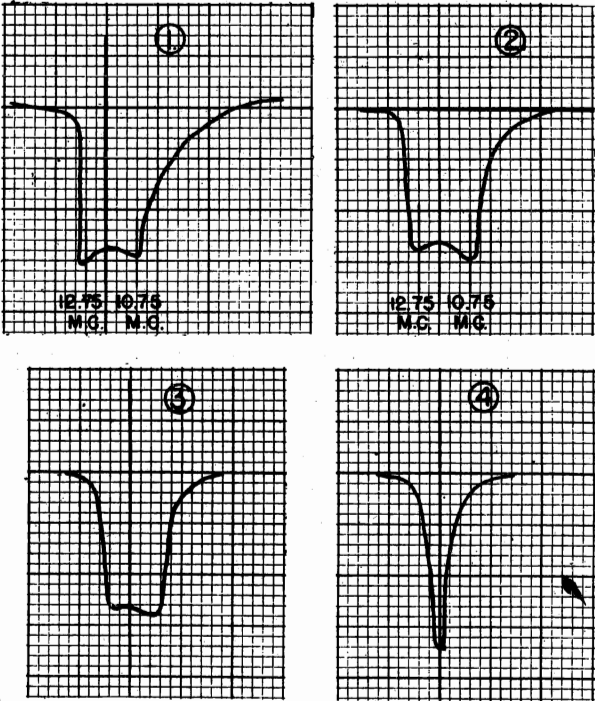

Fig. 6. Television Alignment Curves
| 2. 7.5-15 MC Sweep | Control grid of 1853 (2nd video I.F.) | | Connect output tap of video I.F. Sweep oscillator to control grid of 1853 (2nd video I.F.) See Fig. 1 or 4, arrow (2). Connect ground lead to chassis. Turn contrast control (R-108) to about half of maximum or to a point which gives satisfactory vertical deflection without overloading. Set horizontal centering and gain controls on oscilloscope to give suitable horizontal deflection. Adjust sweep phase to give curve similar to Fig. 6, curve 1. |
| 5. 7.5-15 MC Sweep | Same as in No. 2 | Iron cores of detector transformer T-6 | (Do not touch horizontal controls of oscilloscope. Adjust iron cores of T-6 until curve appears similar to Fig. 6, curve 1, with relatively flat top, 12.75 MC mark at corner of one side and 10.75 MC mark at corner of other side. These conditions plus maximum amplitude insure correct alignment. |
| 6. 7.5-15 MC Sweep | Same as in No. 2 | Iron cores of 4th video transformer T-5 | Adjust iron cores for maximum gain, flatness and proper centering between markers as described in step No. 5 and illustrated in Fig. 6, curve 1. |
| 7. 7.5-15 MC Sweep | Same as in No. 2 | Iron cores of 3rd video transformer T-4 | Adjust primary and secondary iron cores for maximum gain, flatness and proper centering. See Fig. 6, curve 1. |
| 8. 7.5-15 MC Sweep | Converter grid, 6F8G | Iron cores of 2nd video transformer T-3 | Connect low tap to grid (On top of tube). Adjust primary and secondary iron cores for maximum gain, flatness and proper centering. See Fig. 6, curve 2. |
| 2. 44 to 50 MC Sweep | Antenna terminals | (L-8), (C-70), (C-67) | Depress band No. 1 push button. Set tuning control to mid-rotation. Adjust L-8 until curve is centered between maximum horizontal sweep points. Adjust C-70 and C-67 for maximum amplitude. See Fig. 6, curve 3. |
| 3. 50 to 56 MC Sweep | Antenna terminals | (L-9), (C-71), (C-68) | Depress band No. 2 push button. Leave tuning control at mid-rotation point. Adjust L-9 for centering; C-71 and C-68 for maximum amplitude. See Fig. 6, curve 3. |
| 4. 66 to 72 MC Sweep | Antenna terminals | (L-10), (C-72), (C-69) | Depress band No. 3 push button. Adjust L-10 for centering; C-72, C-69 for maximum amplitude. See Fig. 6, curve 3. |
| 2. 7.75 to 8.75 MC Sweep | Converter grid, 6F8G | Iron cores of 4th audio I.F. transformer T-9 | Align for maximum amplitude. See Fig. 6, curve 4. |
| 3. 7.75 to 8.75 | Converter grid, 6F8G | Iron cores of 3rd audio I.F. transformer T-8 | Align for maximum amplitude. See Fig. 6, curve 4. |
| 4. 7.75 to 8.75 | Converter grid, 6F8G | Iron cores of 2nd audio I.F. transformer L-12 | Align for maximum amplitude. See Fig. 6, curve 4. |